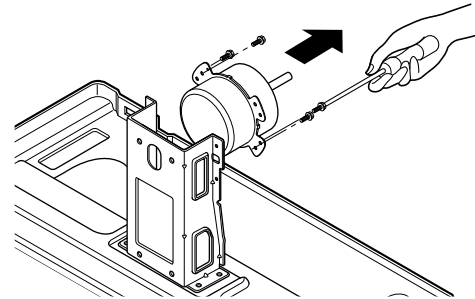

Figure 10
3. Remove the 2 screws which fasten the motor. (See Figure 10)